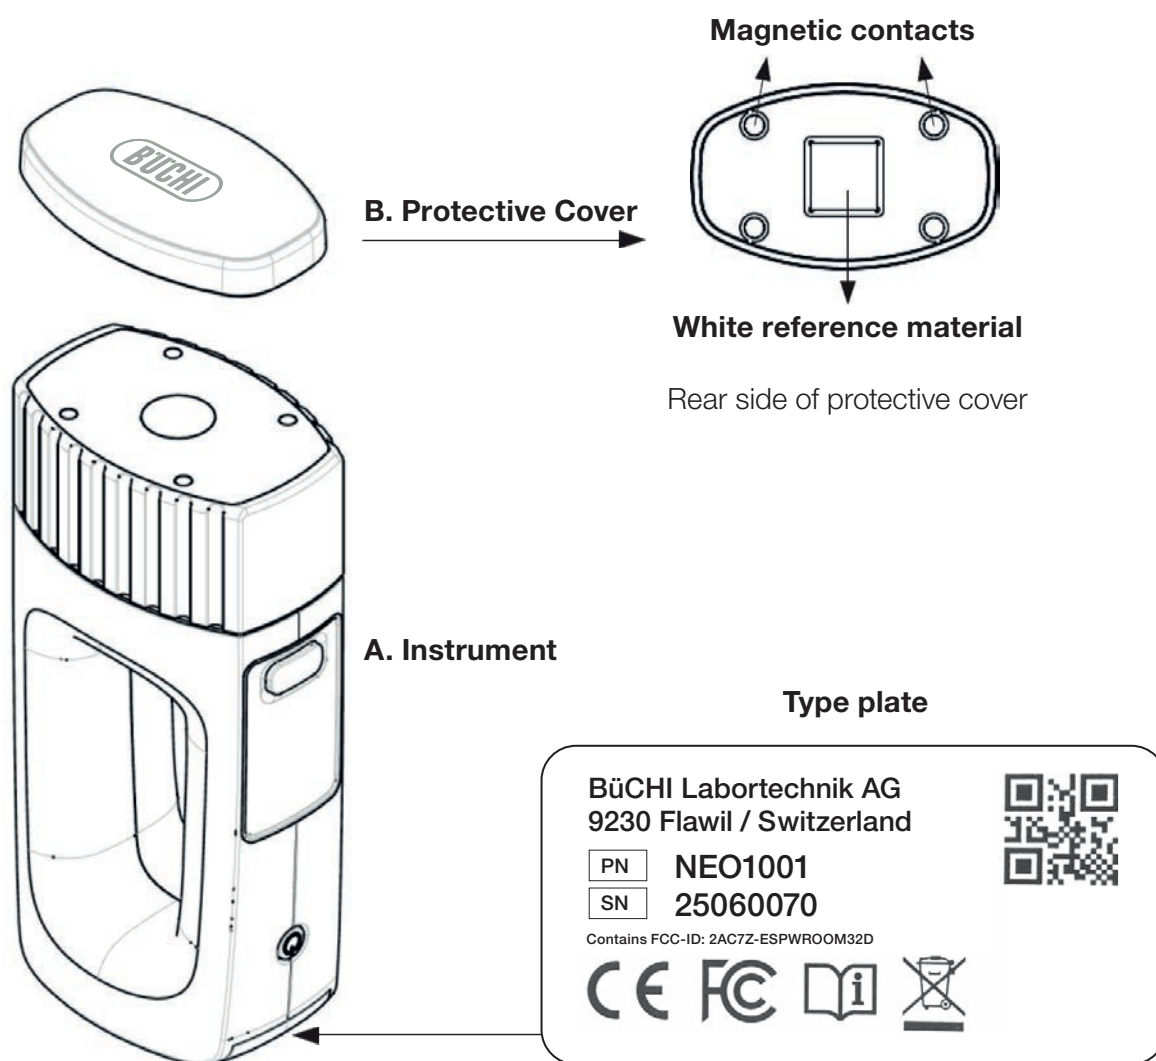

Figure 1: Main Parts
- A. **ProxiScout™:** The main spectra collection instrument (Figure 1).